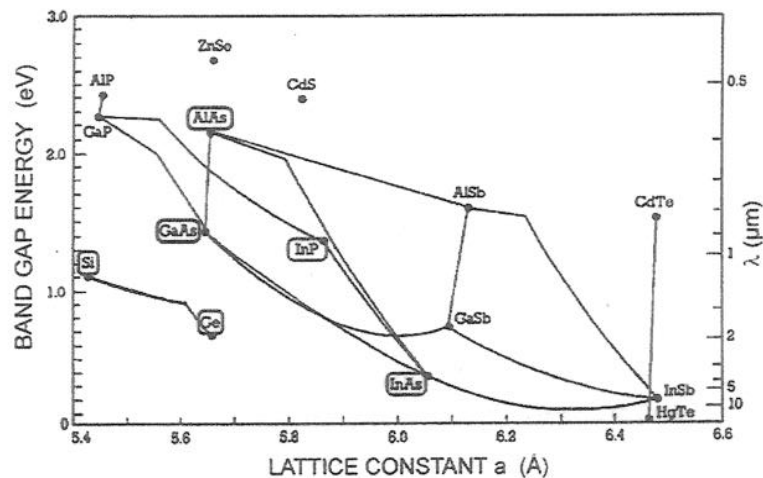

Figure 3.1: The energy band gap as a function of the lattice spacing of different semiconductors and semiconductor alloys.
- b. In an n-type MOSFET on partially depleted (PD) SOI, with source and bulk connected to ground, a neutral region exists.
3. Figure 3.1 gives the variation of the value of the bandgap as a function of the lattice constant of different semiconductor alloys.